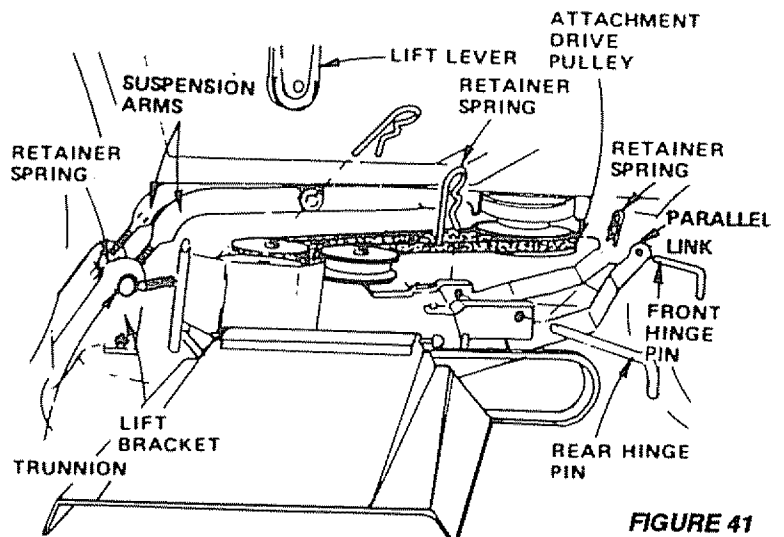

FIGURE 41
- To raise rear of mower, loosen nut "E" on both rear suspension arms. Screw both nuts "F" up an EQUAL NUMBER OF TURNS (Fig. 41).
- Pull retainer springs out of rear suspension trunnions. Remove rear suspension trunnions from lift brackets (Fig. 41)
- Pull retainer spring out of rear hinge pin. Remove rear hinge pin (Fig. 41).
- Pull retainer spring out of front hinge pin. Remove front hinge pin (Fig. 41) and parallel link.
BEFORE DRIVING YOUR TRACTOR, INSTALL MOWER OR REMOVE PARALLEL LINK (FIG. 41).
NOTE: IF AN ATTACHMENT OTHER THAN THE MOWER DECK IS TO BE MOUNTED ON THE TRACTOR, THE L.H. AND R.H. SUSPENSION ARMS (FIG. 41) SHOULD BE REMOVED.